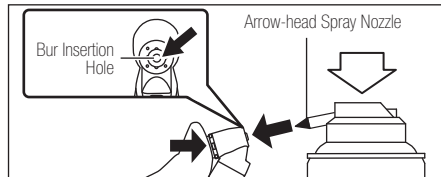

Fig. 6
- 2) Lubricate the chuck directly through the bur insertion hole. (Fig. 6)